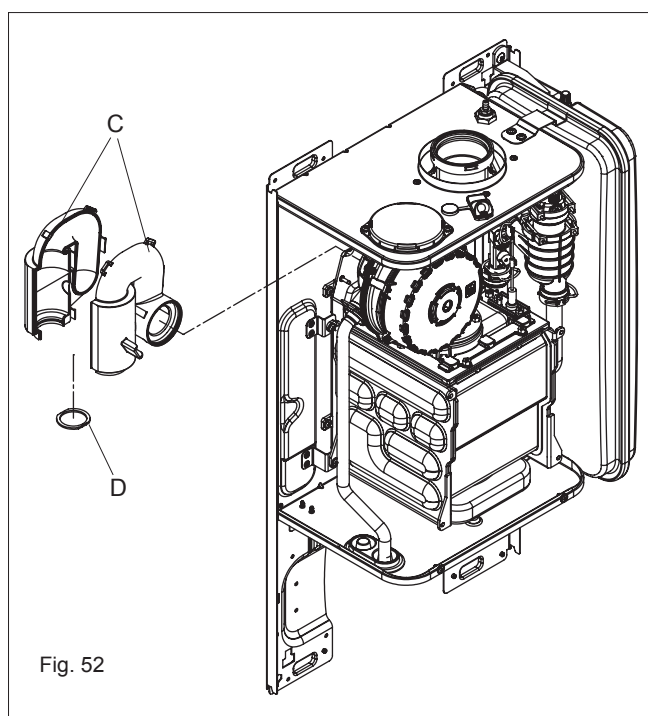

Fig. 52
- Replace the flange (**D** fig. 52) after having removed the 2 screws and divided in two part the silencer (**C** fig. 52).